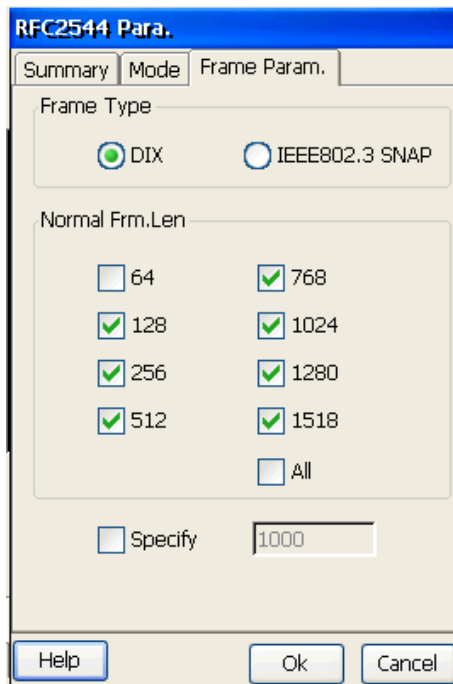

Figure 6.1.4 Frame Parameters Setting
Step4: Switch to “Frame Parameters” page, as is shown in figure 6.1.4.